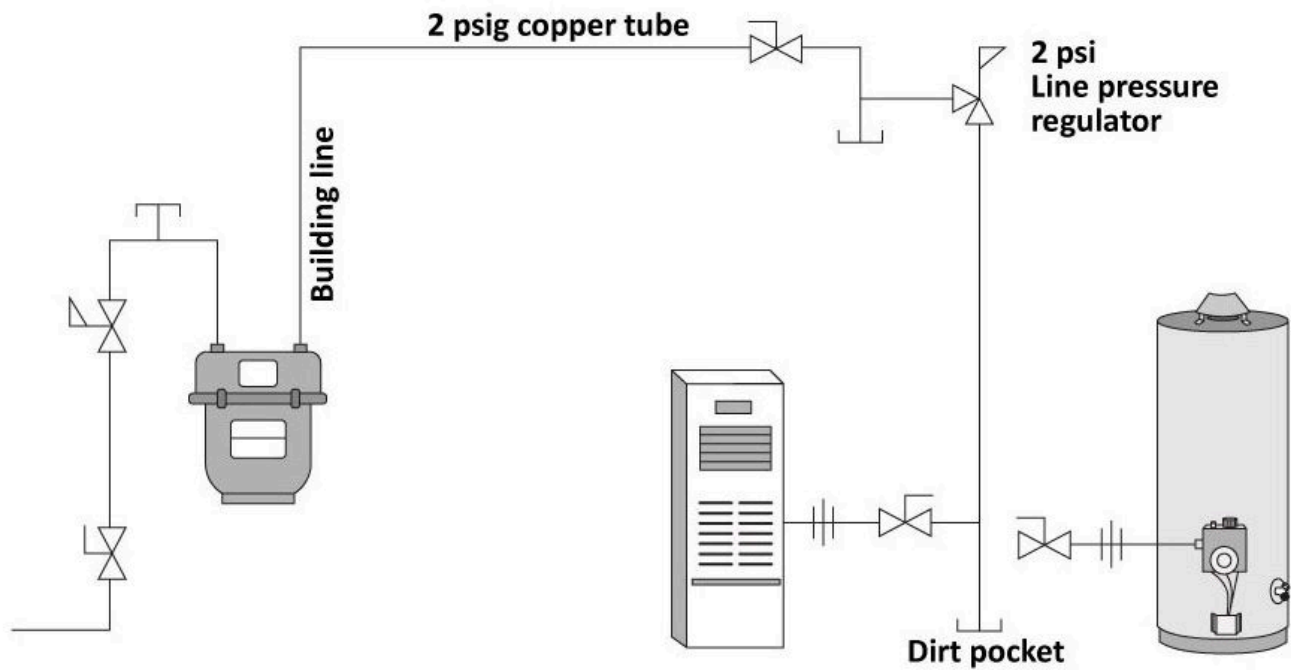

Figure 6. Building gas piping system.
The consumer gas piping system conveys the fuel gas from the point of supply to the gas burning appliances. It may be black iron pipe, CSST, copper tubing or polyethylene (PE) plastic (underground only). The point of supply for natural gas is usually a gas utility companies' meter and, for propane, a propane storage tank. The gas fitter is responsible for designing a piping system, capable of supplying the required volume of gas to each gas-fired appliance, following good piping practices and the requirements of the B149.1 National Gas Code. Figure 6 shows the typical parts of a consumer fuel gas piping system.
- Figure 6 “Building gas piping system” by Camosun College is licensed under a CC BY 4.0 licence (<https://creativecommons.org/licenses/by/4.0/>).